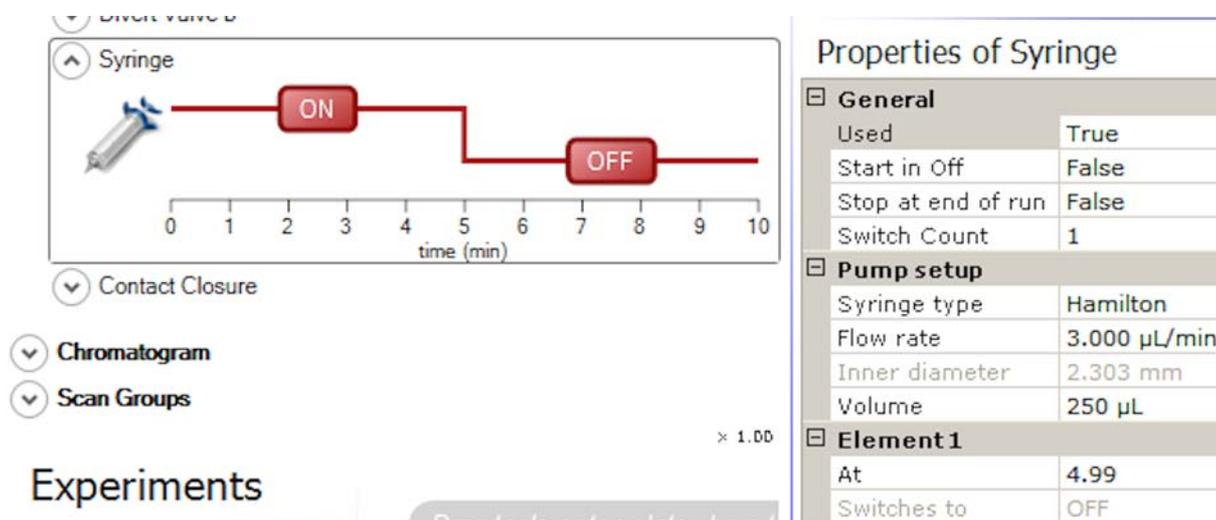

Figure 3-12. Syringe Pump pane
The Syringe item shows a graphic representation of the activities of the optional syringe pump during the active acquisition. See Figure 3-12.
- Right-click in the pane to display the shortcut menu. Choose **Activate**. The gray color  changes to the red color . See Figure 3-12.
A step in the line of the graphic representation indicates the new switch point. See Figure 3-12.